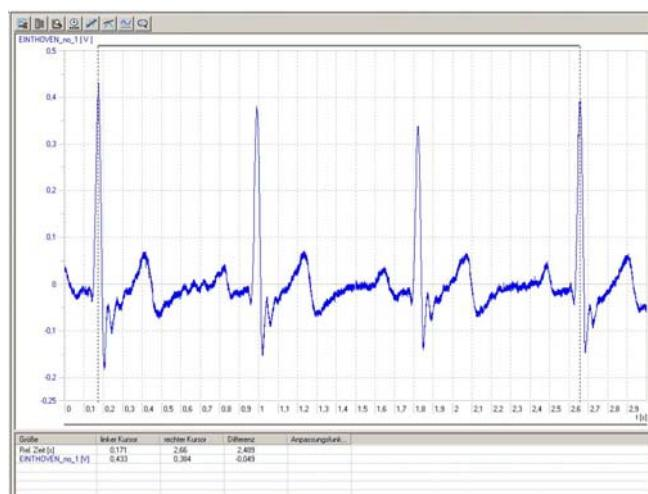

Fig. 2 A relaxed-state ECG recorded using Einthoven standard lead I and displayed on the screen in 3B NETlab™ (U11310)
- Start the template and record the curve for the chosen ECG variant (in this case, relaxed-state ECG with Einthoven standard lead I, see Fig. 2).